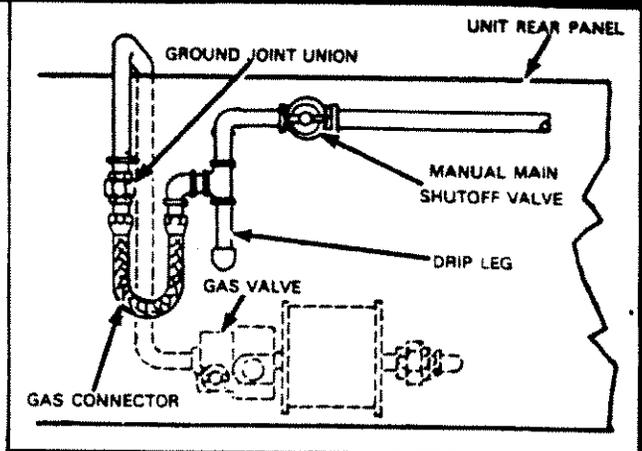

FIGURE 22
The above connectors may be used if acceptable by the authority having jurisdiction. A gas connector is provided and, if used, should be installed between the manual main shut-off valve and ground joint union. See figure 21 for downflow application and figure 22 for horizontal application
- 3 - Center gas line through piping hole. Gas line should not touch side or unit. See figure 21 for downflow application and figure 22 for horizontal application.